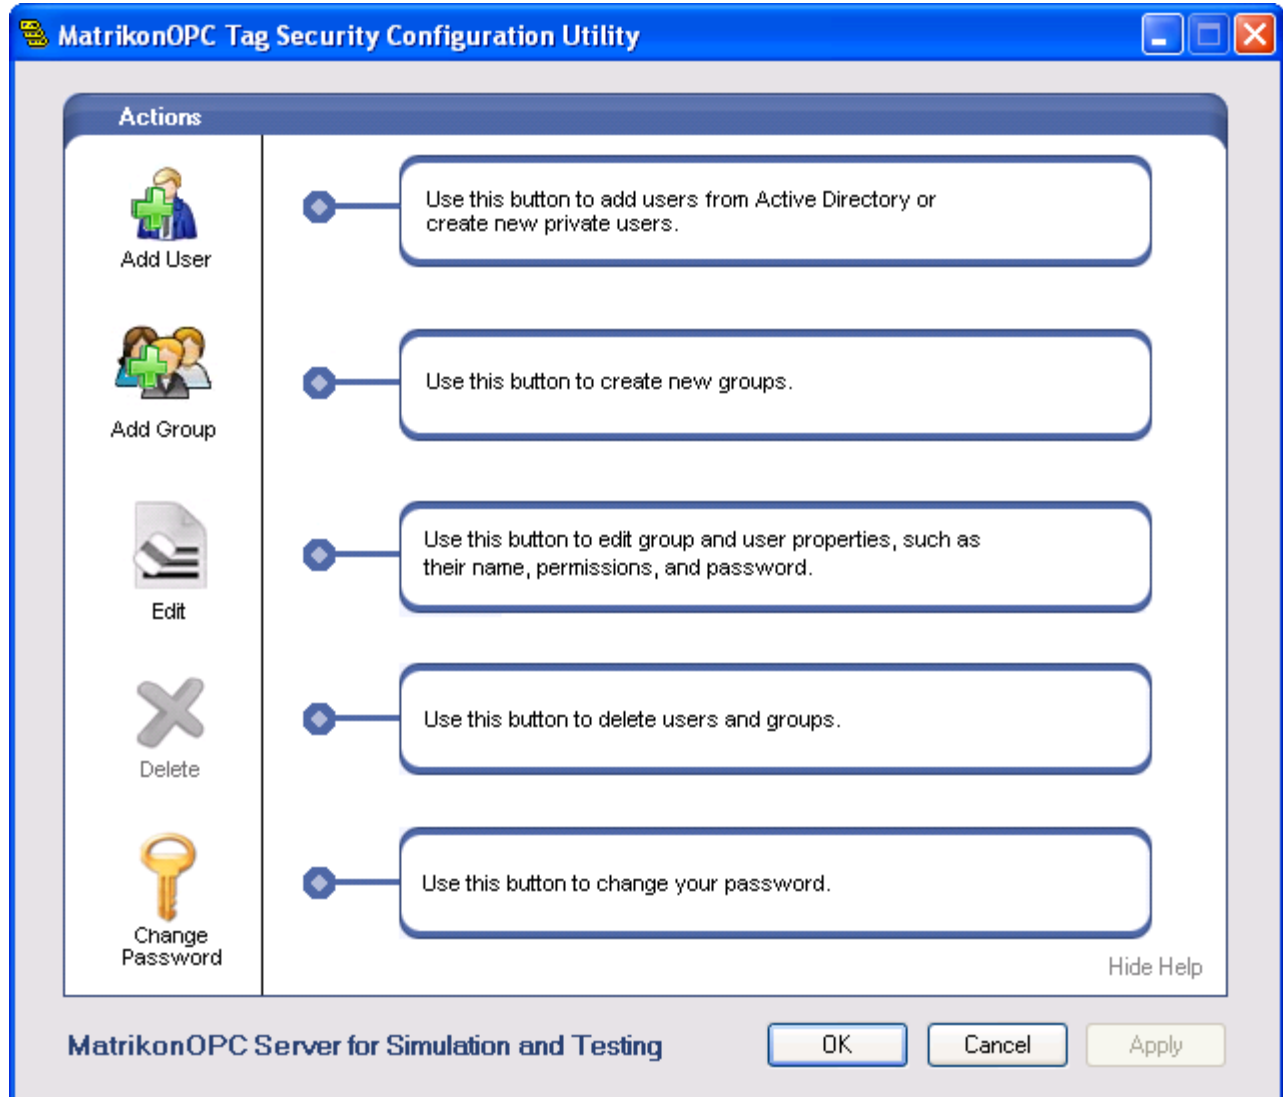

Figure 38 - MatrikonOPC Tag Security Configuration Utility Main Screen
4. The **MatrikonOPC Tag Security Configuration Utility** screen (Figure 38) appears.
The **MatrikonOPC Tag Security Configuration Utility** screen displays the name of the OPC server that is being configured for tag security. In Figure 38 above, the **Utility** screen shows that the **MatrikonOPC Server for Simulation and Testing** tag security is being configured.